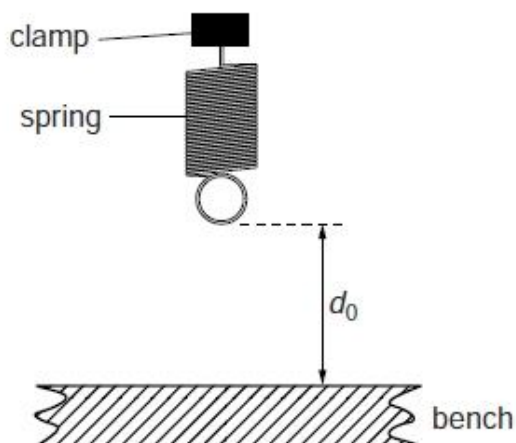

Fig. 1.1
Fig. 1.1 shows the experimental set up.
- (a) On Fig. 1.1, measure the vertical distance  $d_0$ , in mm, between the bottom of the spring and the surface of the bench.